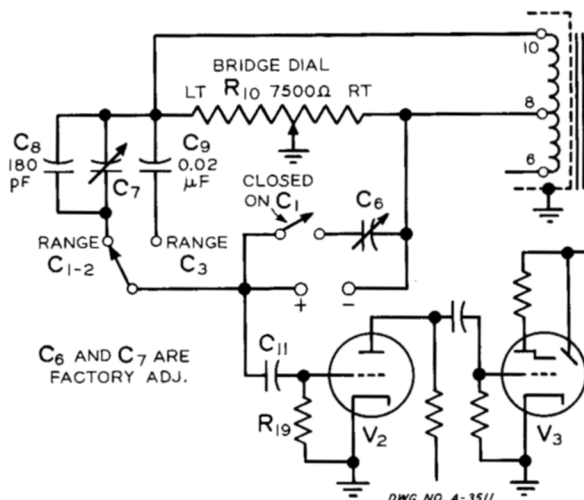
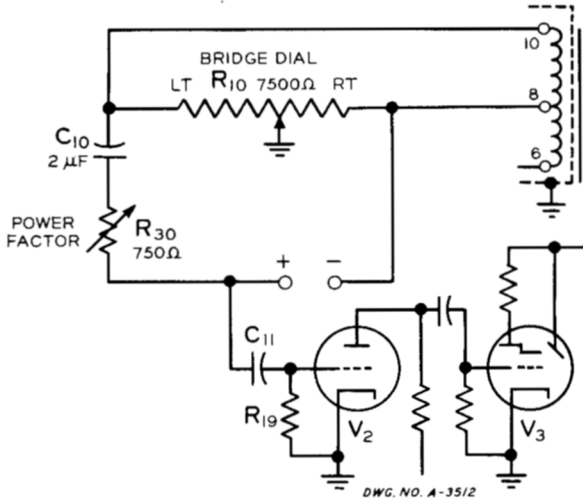
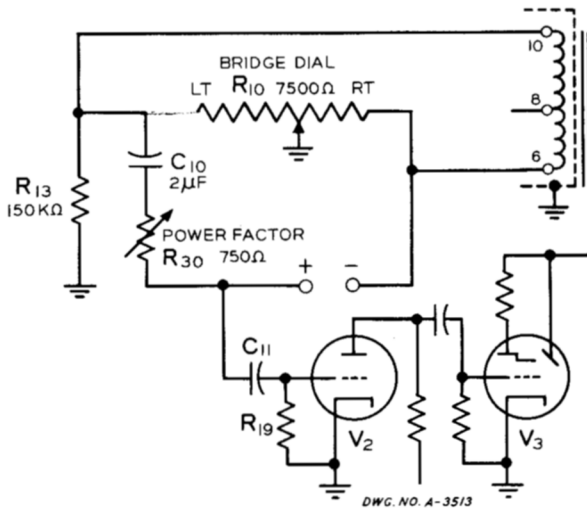

FIGURE 1
FIGURE 2
FIGURE 3
2.1 Measurements of capacitance from 1 pF to 2000 μ F are made on a 5-range line frequency capacitance bridge. Figure 1 shows a simplified circuit diagram of the bridge employed for the C_1 , C_2 , and C_3 ranges. Figure 2 shows the basic bridge circuit for the C_4 range and Figure 3 is the simplified circuit for the C_5 range. Since the bridge is balanced on all ranges by continuously varying the ratio arm, a highly accurate, linear-taper wirewound variable resistor is used for the main bridge element. These potentiometers are especially selected to assure accurate matching of the calibrated scales over their full length. The standard capa-